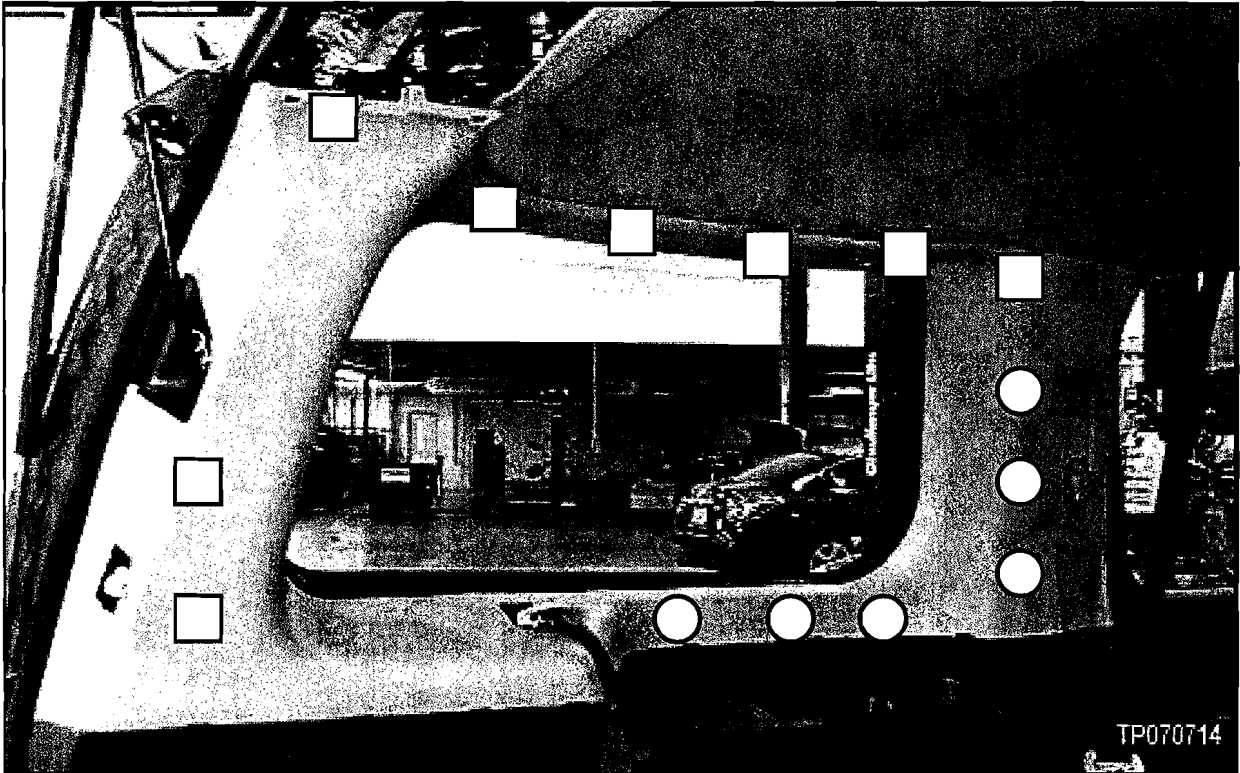

Figure A28
- Pop loose all of the clips shown in Figure A28.